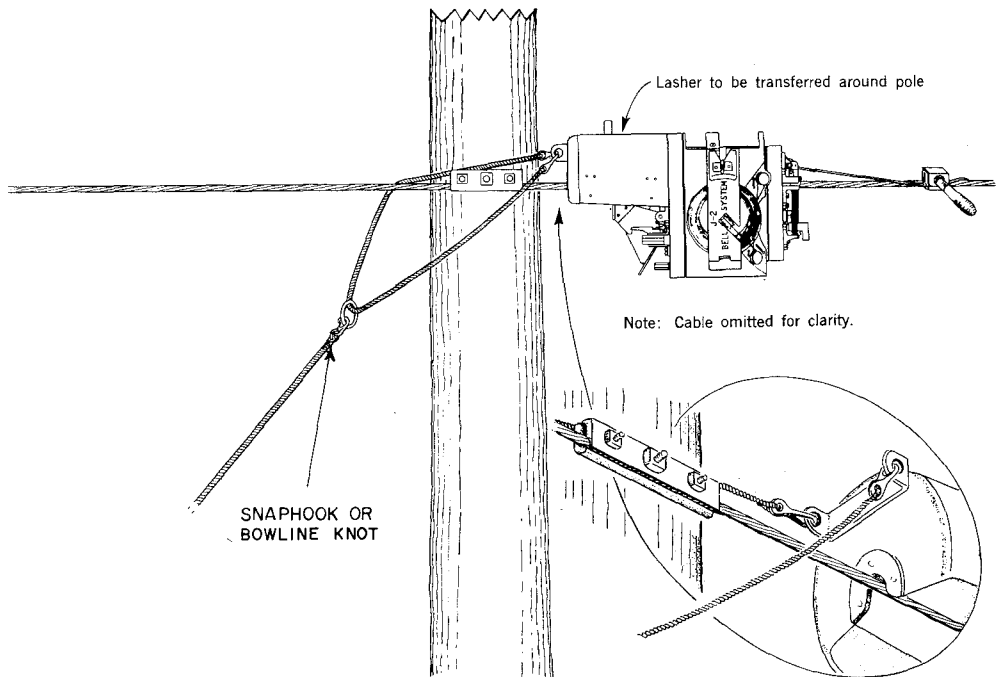

Fig. 7—Method of J or F Lasher Transfer
- (1) Clamp the lashing wire to the strand.
- (2) Pull out sufficient wire for terminating or lashing past a pole.
- (3) Attach the lasher bridle as illustrated in Fig. 7.
- (4) Open the front and rear gates.
- (5) Lift the lasher off the strand and move it over into place on the strand on the other side of the pole. If the lasher is accidentally